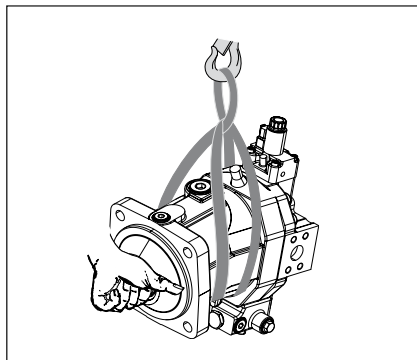

Fig. 5: Transport with lifting strap
- ▶ Place the lifting strap around the axial piston unit in such a way that it neither passes over the attachment parts (e.g. valves) nor that the axial piston unit is hung from attachment parts (see Fig. 5).